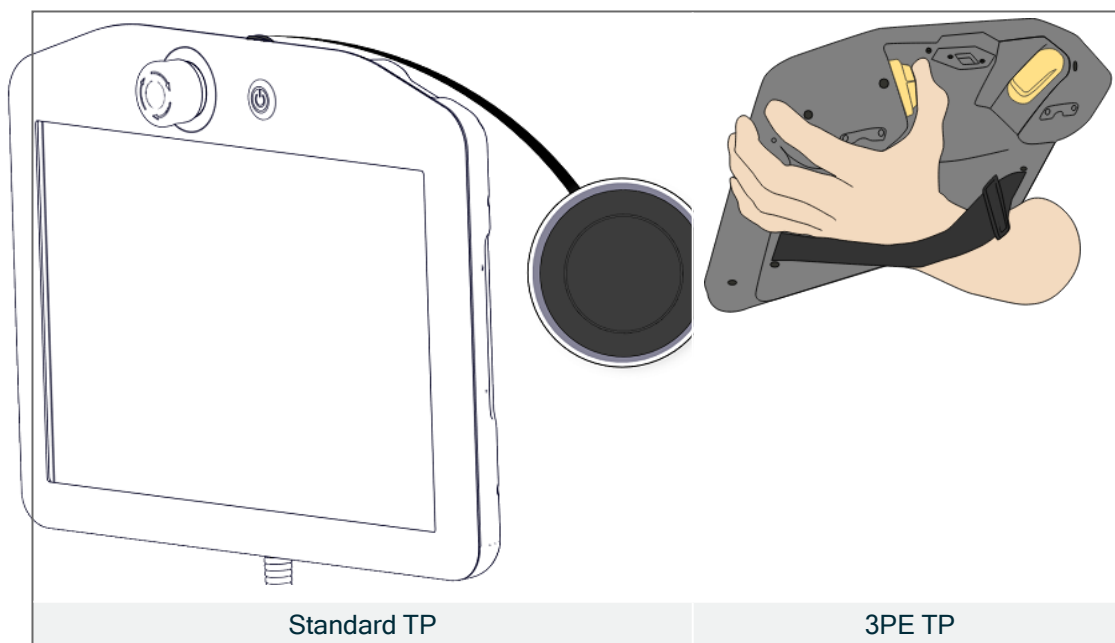

Figure 3.6. Freedrive a standard TP and 3PE TP.
2. Press and hold Freedrive. Status changes to *Backdrive*, as shown in figure 3.6.